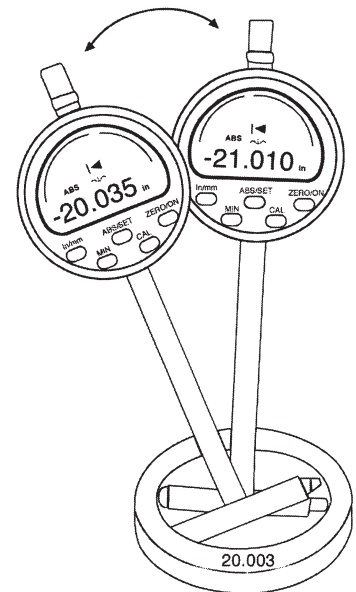

Figure 2
This tool is provided with two interchangeable heads. The "small head" (Figure 1) is for taking measurements between 1.4"/35mm and 2.0"/50mm. The "large head" (Figure 2) is for measuring between 2.0"/50mm and 6.0"/150mm. To interchange between ranges simply unscrew the measuring head from the joint and screw in the desired measuring head. Each anvil measures up to the dimension specified in the above anvil range table. Use the washers to obtain dimensions in between anvil ranges. To measure 4.0"/100mm and above, the 2.0"/50mm extension must also be installed on the bore gage.
- 3) Tap the MIN button to initiate calibration. Sweep the bore gage back and forth in the ring. See Figure 2.